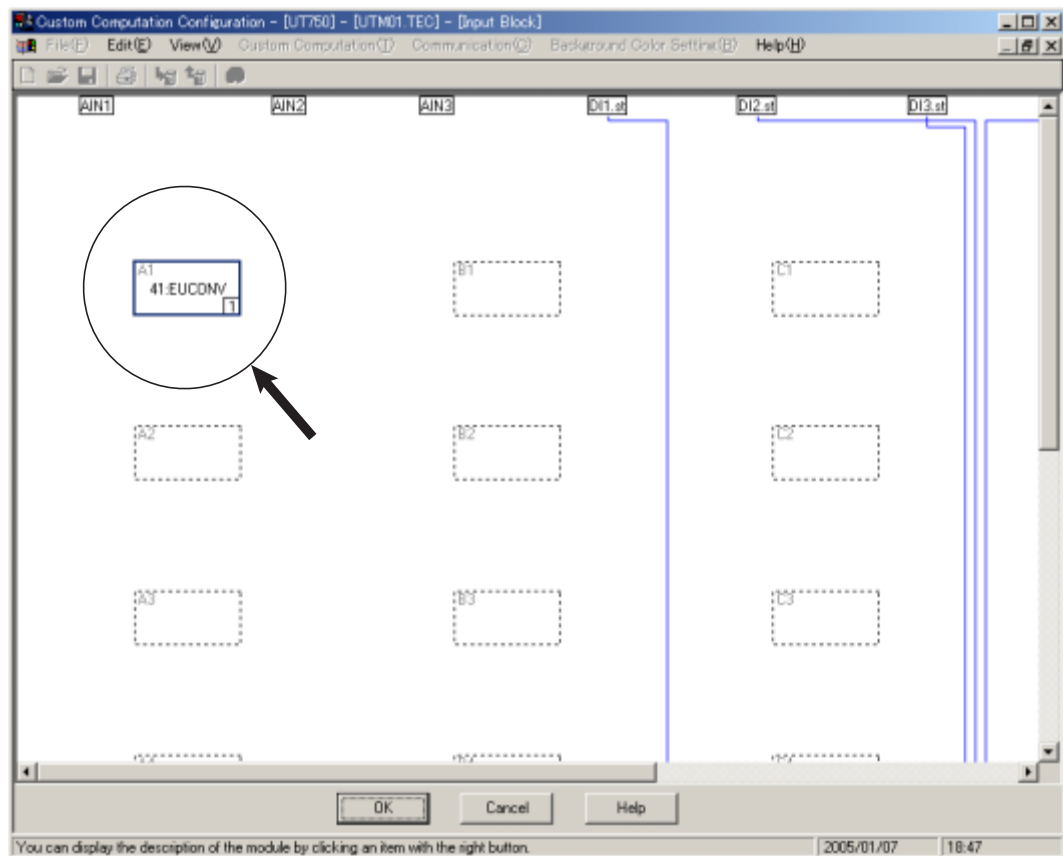

Figure 12.4.4 Example of the [Input Block] Dialog Box where the EUCONV Module Is Registered As the First-run Module
- (3) Click the <Special Calculation> index.
- (4) Double-click <41: EUCONV>. The EUCONV module is registered with the [Input Block] dialog box, as shown in Figure 12.4.4.